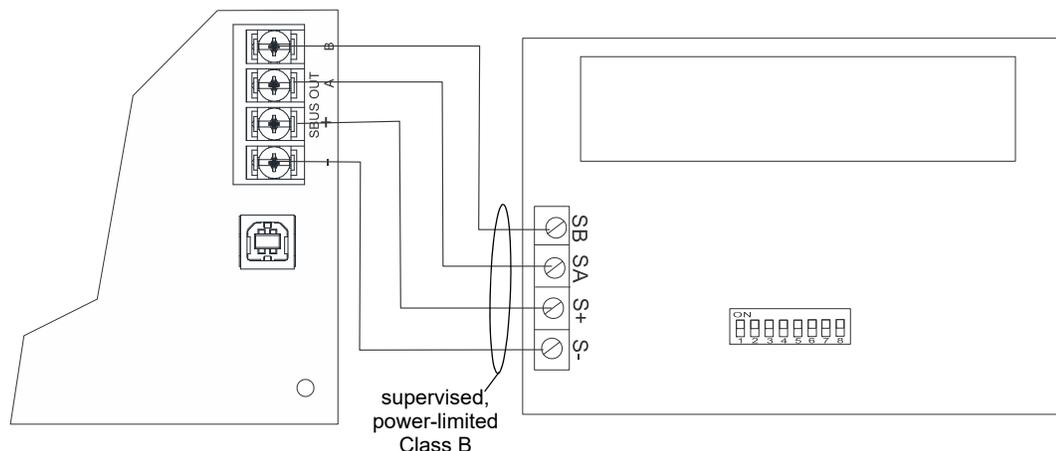

Figure 4.25 6860 Connection to the Panel
3. Wire the annunciator board to the main control panel as shown in Figure 4.25.
- Run wires to the control panel. Refer to Figure 4.25.